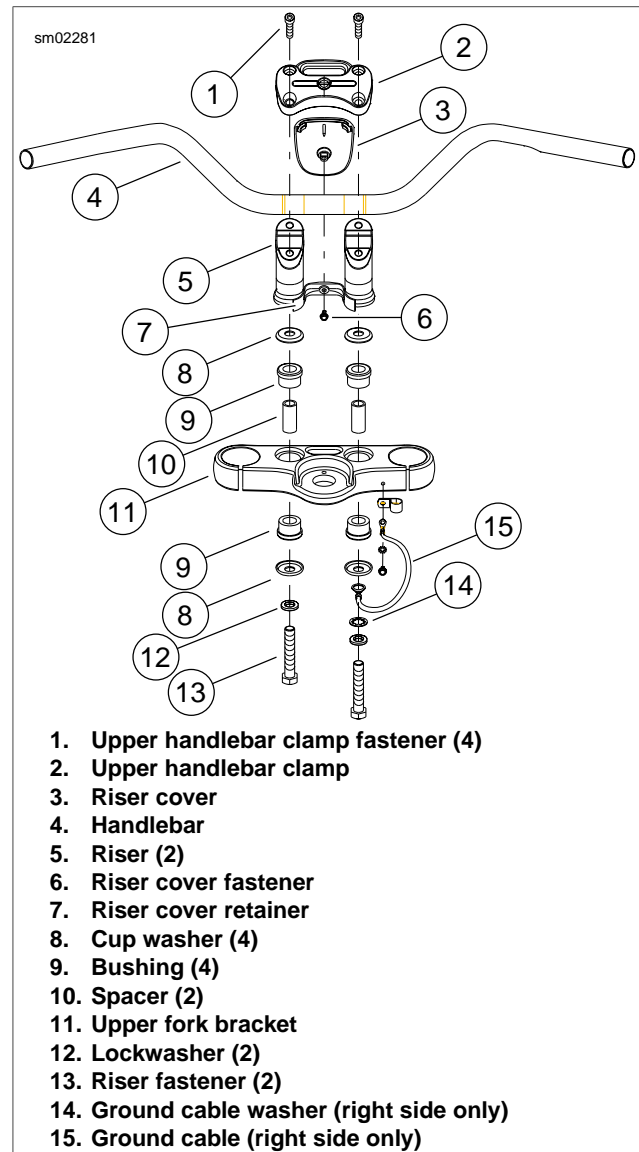

Figure 2-103. Handlebars: FXDL
1. See Figure 2-103. Remove riser cover fastener (6) and riser cover (3).
2. Remove upper handlebar clamp fasteners (1).
3. Remove upper handlebar clamp (2).
4. Remove handlebar (4).
5. If removing risers (5), remove two riser fasteners (13), lockwashers (12), ground cable (15) and ground cable washer (14) and risers from upper fork bracket (11). Replace bushings (9) if necessary.
- See Figure 2-103. If risers (5) were removed, install lock-washers (12) on riser fasteners (13). Install ground cable (15) and ground cable washer (14) on right-side fastener.